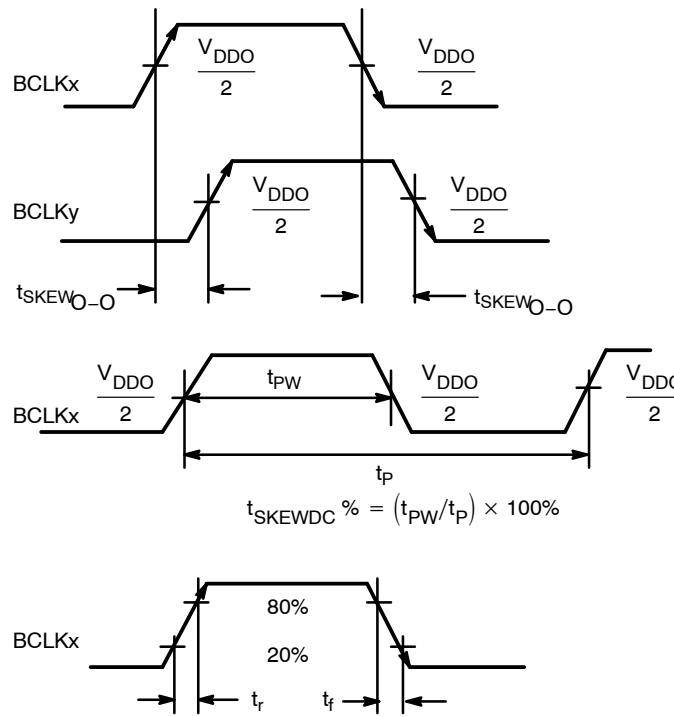

Figure 4. AC Reference Measurement
| $tSKEW_{DC}$ | Duty Cycle Skew (See Figure 4) | 48 | | 52 | % |
| $tSKEW_{DC}$ | Duty Cycle Skew (See Figure 4) | 47 | | 53 | % |
5. Crystal inputs $\leq F_{max}$. Outputs loaded with $50\ \Omega$ to $V_{DDO}/2$. CLOCK (LVCMOS levels at XTAL1 input) 50% duty cycle. See Figures 4 and 7. See APPLICATION INFORMATION; Crystal Input Interface for CL loading.
| tSKEW _{DC} | Duty Cycle Skew (See Figure 4) | 48 | | 52 | % |
| tSKEW _{DC} | Duty Cycle Skew (See Figure 4) | 47 | | 53 | % |
5. Crystal inputs ≤ F_{max}. Outputs loaded with 50 Ω to V_{DDO}/2. CLOCK (LVCMOS levels at XTAL1 input) 50% duty cycle. See Figures 4 and 7. See APPLICATION INFORMATION; Crystal Input Interface for CL loading.